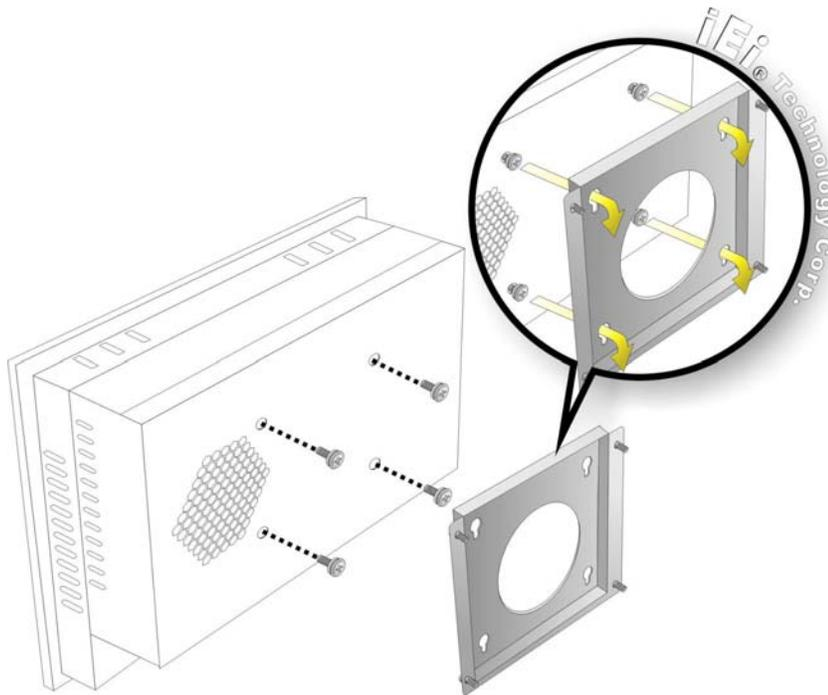

Figure 3-12: Mount the Chassis
- Step 6:** Insert the four monitor mounting screws provided in the wall mounting kit into the four screw holes on the rear panel of the monitor and tighten until the screw shank is secured against the rear panel (see **Figure 3-12**).